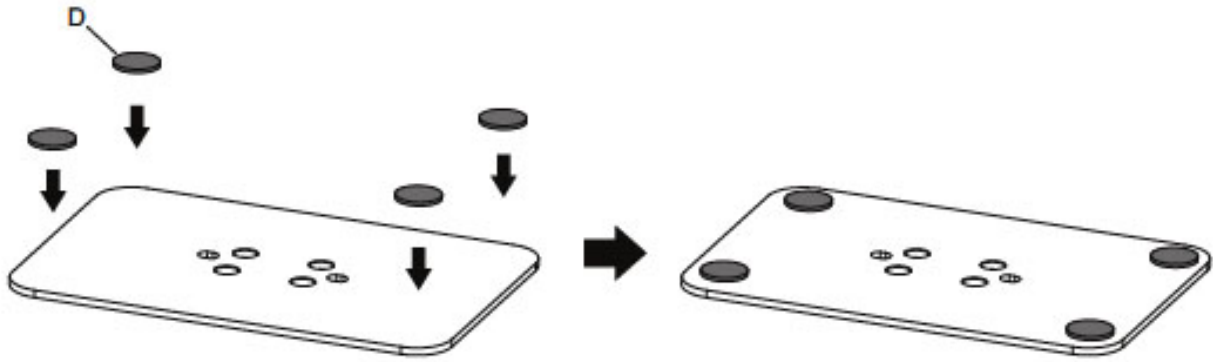

Figure 1
2. Remove the adhesive protection from the **Rubber Pads (D)**.
3. Mount the **Rubber Pads (D)** onto the weighted base, see **Figure 1**.